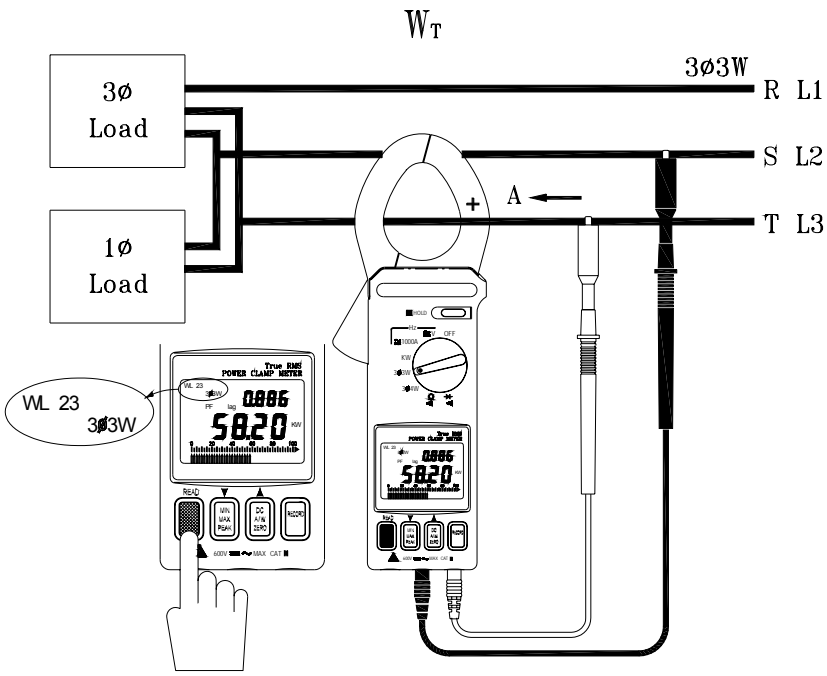

Figure 5
B. Measure $W_{TS}(L3L2)$ (refer to figure 5).